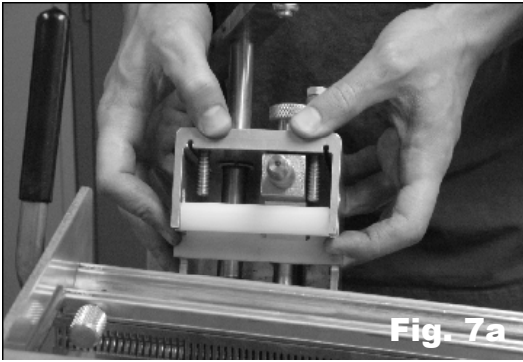
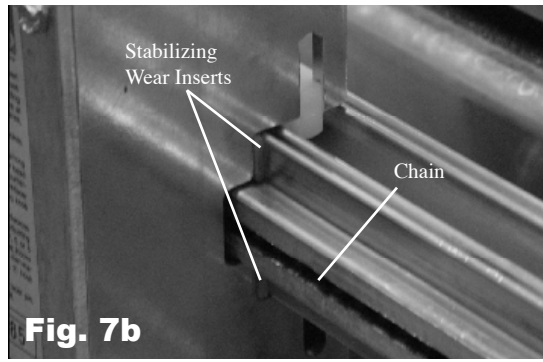

Fig. 7a
Fig. 7b
Step 7: Place the lacer head back onto the aluminum extrusion while holding stabilizing wear inserts in place. See Fig. 7a. You may have to move the head slightly from side to side while positioning it on the extrusion so that the sprocket teeth seat down into the chain. The head should now be on the extrusion with the stabilizing wear inserts appropriately located between the housing cutout and the aluminum extrusion. See Fig. 7b.